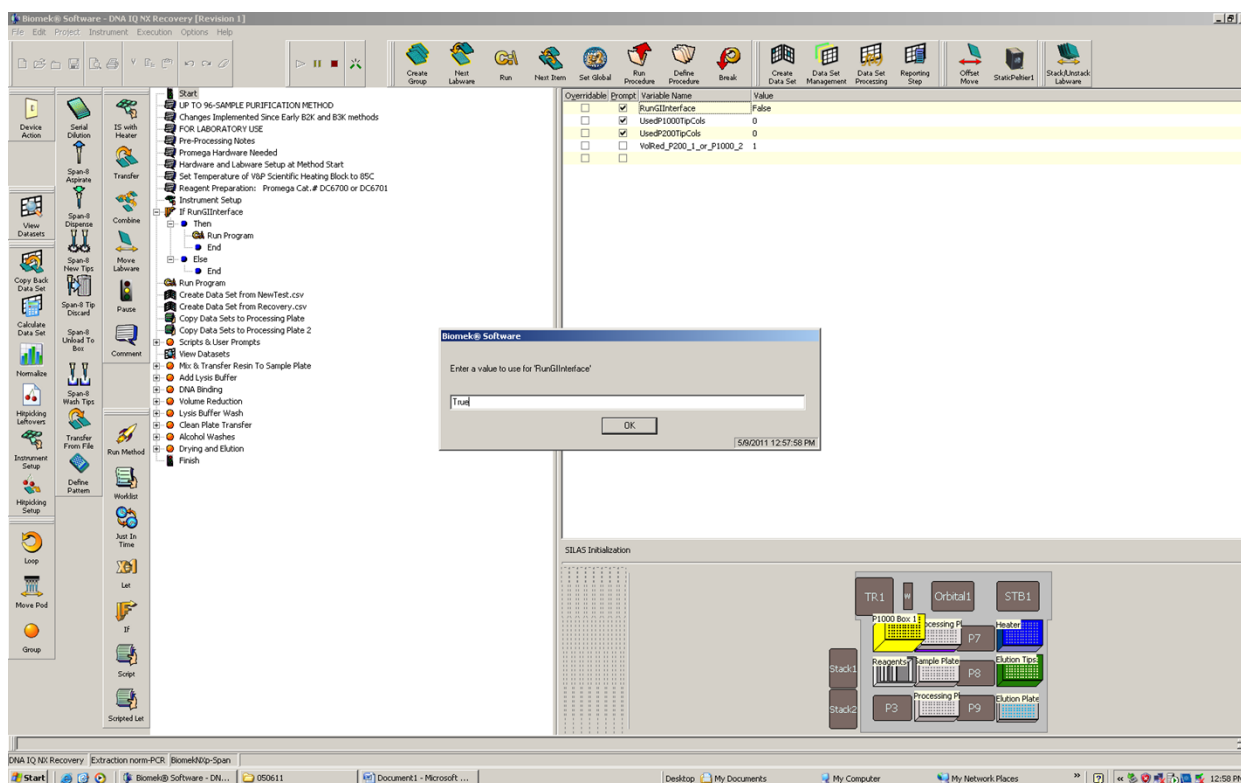

Figure 6. Prompt for running the GI Interface in the recovery method.
2.3.3.1 In addition to the regular series of prompts that appear in the standard extraction method (see 4.4.7), the GI Interface prompt (shown in Figure 6) will also appear.